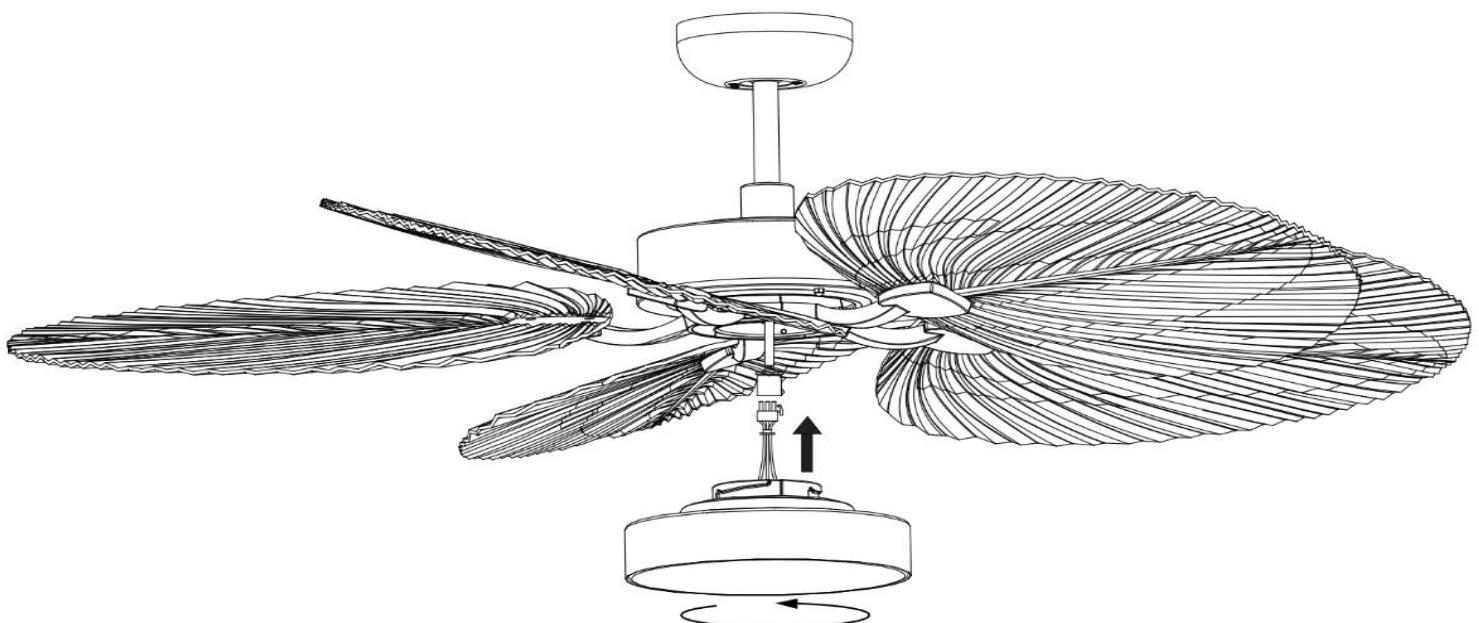

Fig. 6
**INSTALLATION OF LIGHT KIT (Fig. 6)**